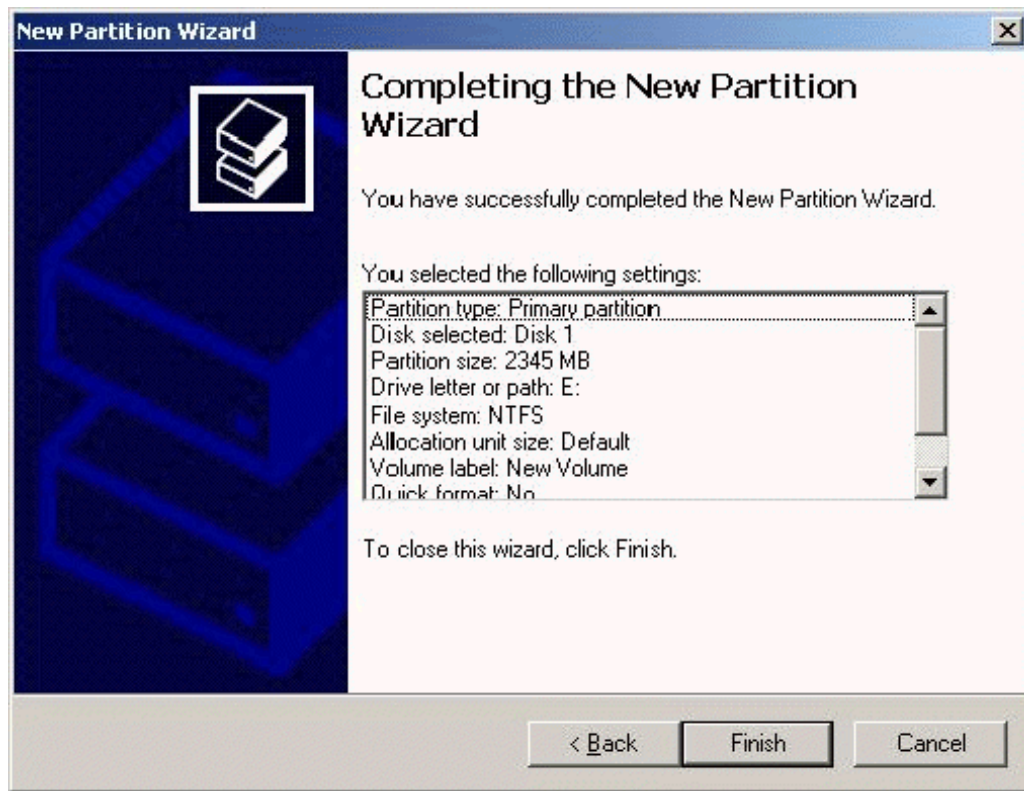

Figure 2-15: Successful Formatting Confirmation Panel
7. When the format operation is complete, click **OK**. The New Partition Wizard displays the new partition (Figure 2-15 on page 2-20). Click **Finish** to close the New Partition Wizard.